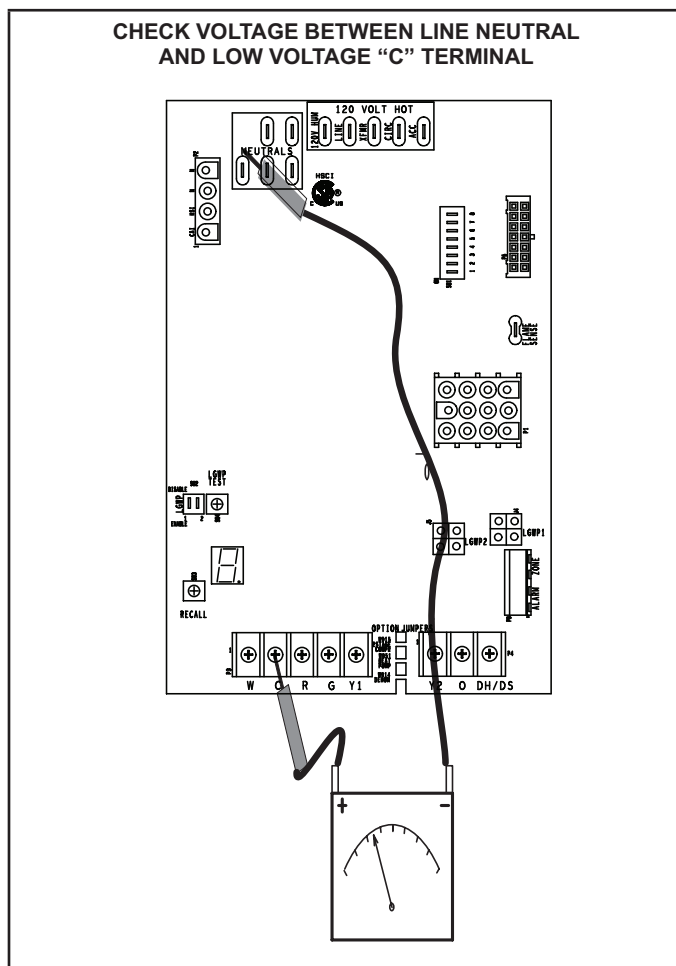

FIGURE 22
- 1 - Measure the AC voltage between Line Neutral (spade terminals) and "C" terminal (low voltage terminal block) on the integrated control. See FIGURE 22. A wide variation in the voltage between Line Neutral and "C" as a function of load indicates a poor or partial ground. Compare the readings to the table below. If the readings exceed the maximum shown in TABLE 19, make repairs before operating the furnace